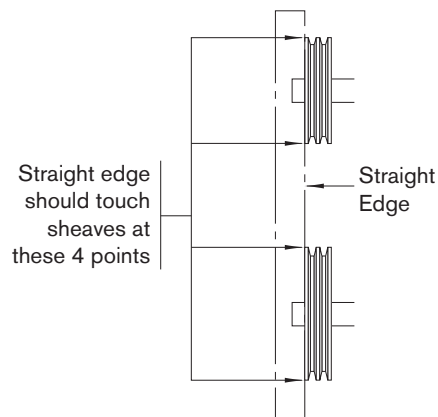

Figure 2
10. Align the fan and motor sheaves with a straight-edge (or string) as shown in **Figure 2**. If the sheaves are not the same width, align by sight. For more precise methods, consult your local drives dealer.